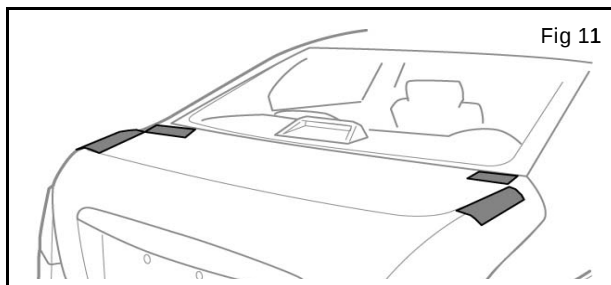

Fig 11
- 22) Remove the stud covers and carefully place the spoiler on the trunk lid. Confirm the gaps are equal on both sides of the spoiler and check for proper hole alignment. Apply tape to trunk lid as shown in (Fig 11) to ensure spoiler can be placed in the same location at final assembly. Remove the spoiler. (Fig 11)